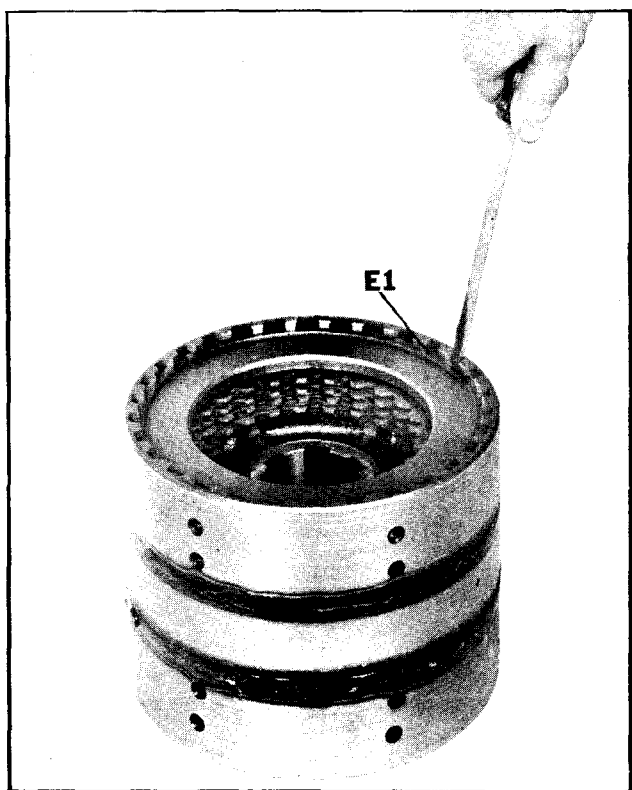

Figure 26
1. Remove snap ring (F-1) (Figure 26).